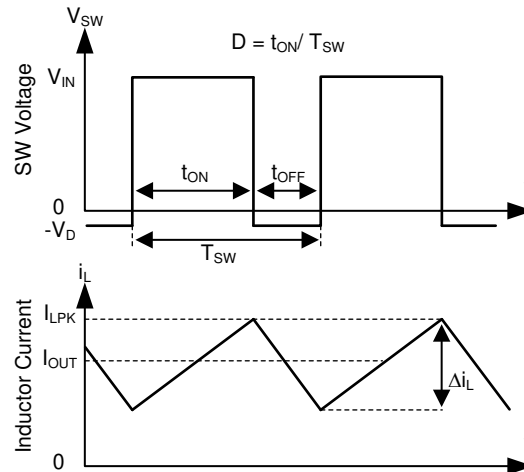

Figure 10-1. SW Node and Inductor Current Waveforms in Continuous Conduction Mode (CCM)
The following operating description of the TPS2583x-Q1 will refer to the and the waveforms in Figure 10-1. TPS2583x-Q1 is a step-down synchronous buck regulator with integrated high-side (HS) and low-side (LS) switches (synchronous rectifier). The TPS2583x-Q1 supplies a regulated output voltage by turning on the HS and LS NMOS switches with controlled duty cycle. During high-side switch ON time, the SW pin voltage swings up to approximately V_{IN} , and the inductor current i_L increase with linear slope $(V_{IN} - V_{OUT}) / L$. When the HS switch is turned off by the control logic, the LS switch is turned on after an anti-shoot-through dead time. Inductor current discharges through the LS switch with a slope of $-V_{OUT} / L$. The control parameter of a buck converter is defined as Duty Cycle $D = t_{ON} / T_{SW}$, where t_{ON} is the high-side switch ON time and T_{SW} is the switching period. The regulator control loop maintains a constant output voltage by adjusting the duty cycle D . In an ideal buck converter, where losses are ignored, D is proportional to the output voltage and inversely proportional to the input voltage: $D = V_{OUT} / V_{IN}$.